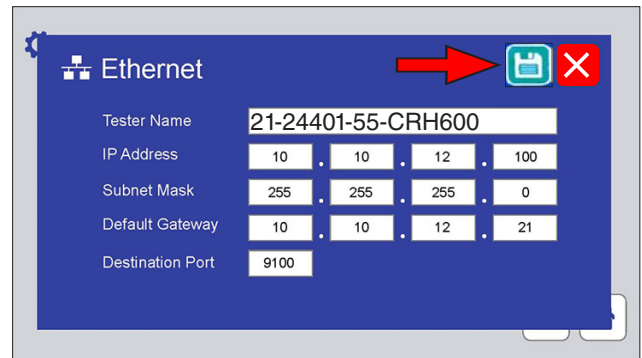

Figure 9.7t: Touch the save icon to save any changes to Ethernet parameters.
- o Ethernet (Figure 9.7q through Figure 9.7t).